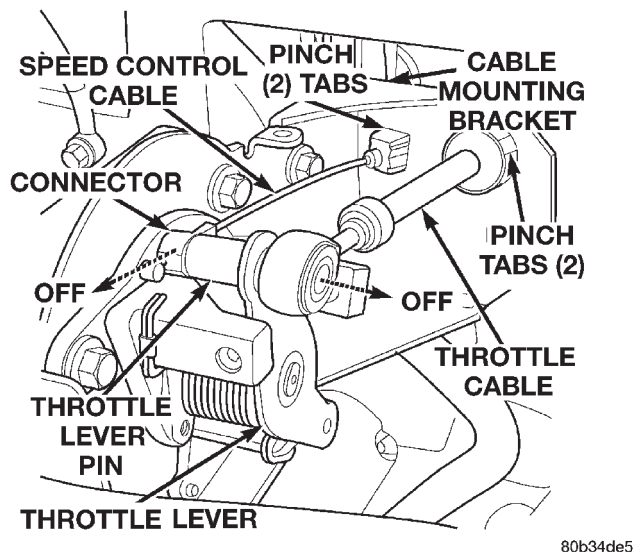

Fig. 7 Servo Cable at Throttle Lever
(9) Using finger pressure only, disconnect end of servo cable from throttle lever pin by pulling forward on connector while holding lever rearward (Fig. 7). **DO NOT** try to pull connector off perpendicular to lever pin. Connector will be broken.